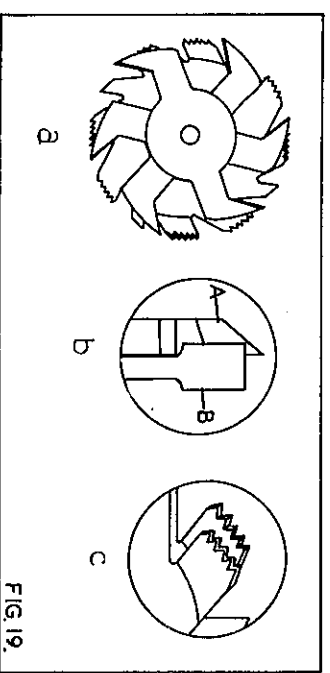

FIG. 19.
A dado head is made up of two outside saws and 5 inner cutters. Various combinations of saw and cutters are used to cut grooves from 1/8" to 1" wide (3mm to 25mm). Inner cutters are heavily swaged and must be arranged so that the heavy portion falls in the gullets of the outside saw as shown on Fig. 19 (1), Fig. 19 (b) shows how the saws and cutters overlap "A" being the saw and "B" being the inside cutter. A 1/4" (6mm) groove is cut by using the two outside saws fitting the ground teeth directly opposite as shown in Fig. 19 (c) in order to allow clearance for the slight set of the saw teeth.